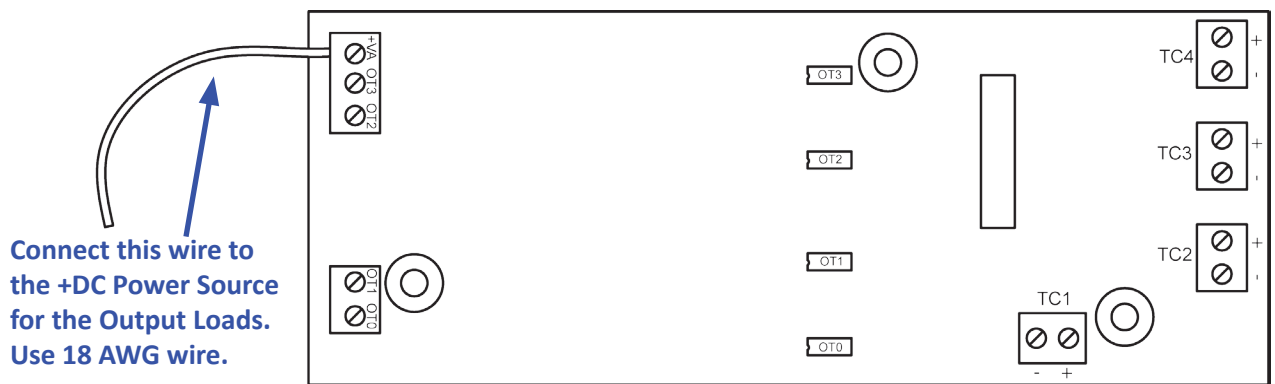

Figure 1.3 - Connect Digital Output Power Source
5. The Digital Outputs of the VBEX-TCDOT requires a Power Supply for operation. Connect an 18 AWG wire from your power supply (8 - 32 VDC) to the +VA terminal of the VBEX-TCDOT. Refer to Figure 1.3.
An external power connection and source is required to supply power for the outputs. Power is supplied by the +VA terminal using the 18 AWG wire as shown in Figure 1.3. The +VA terminal and expander outputs allow for expander output loads to be controlled at different voltages from the controller I/O. The expander outputs will operate at any voltage from 8-32VDC.